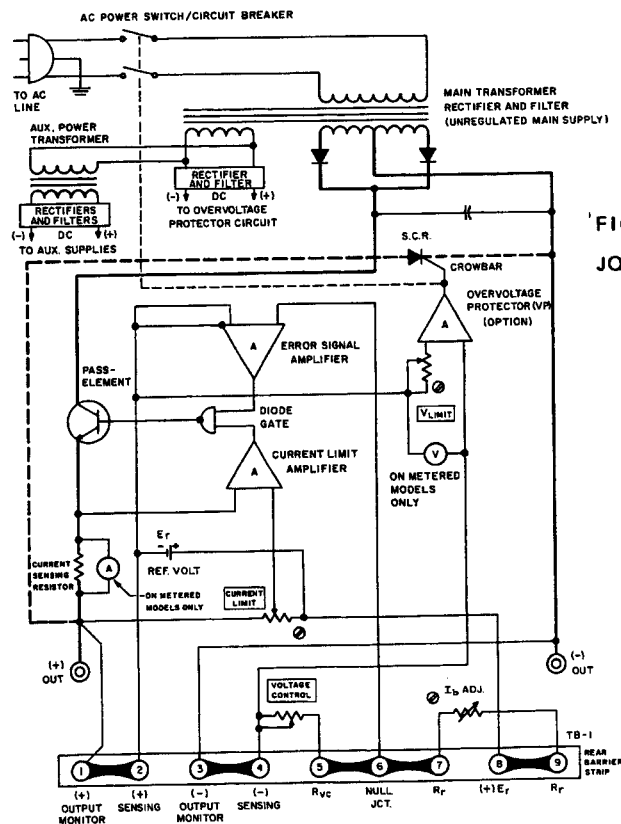

FIG. 4-1 SIMPLIFIED DIAGRAM,
(References in CAPITAL LETTERS refer to the nomenclature used in FIG 4-1)
4.1 SIMPLIFIED DIAGRAM DISCUSSION (Refer to FIG 4-1)
- Check rear barrier-strip jumper connection for correct placement and tight seat (Refer to FIG. 4-1).
- Check reference voltage from terminal (2) to (8) on the rear barrier-strip. Correct reference potential is 6.2 nominal.